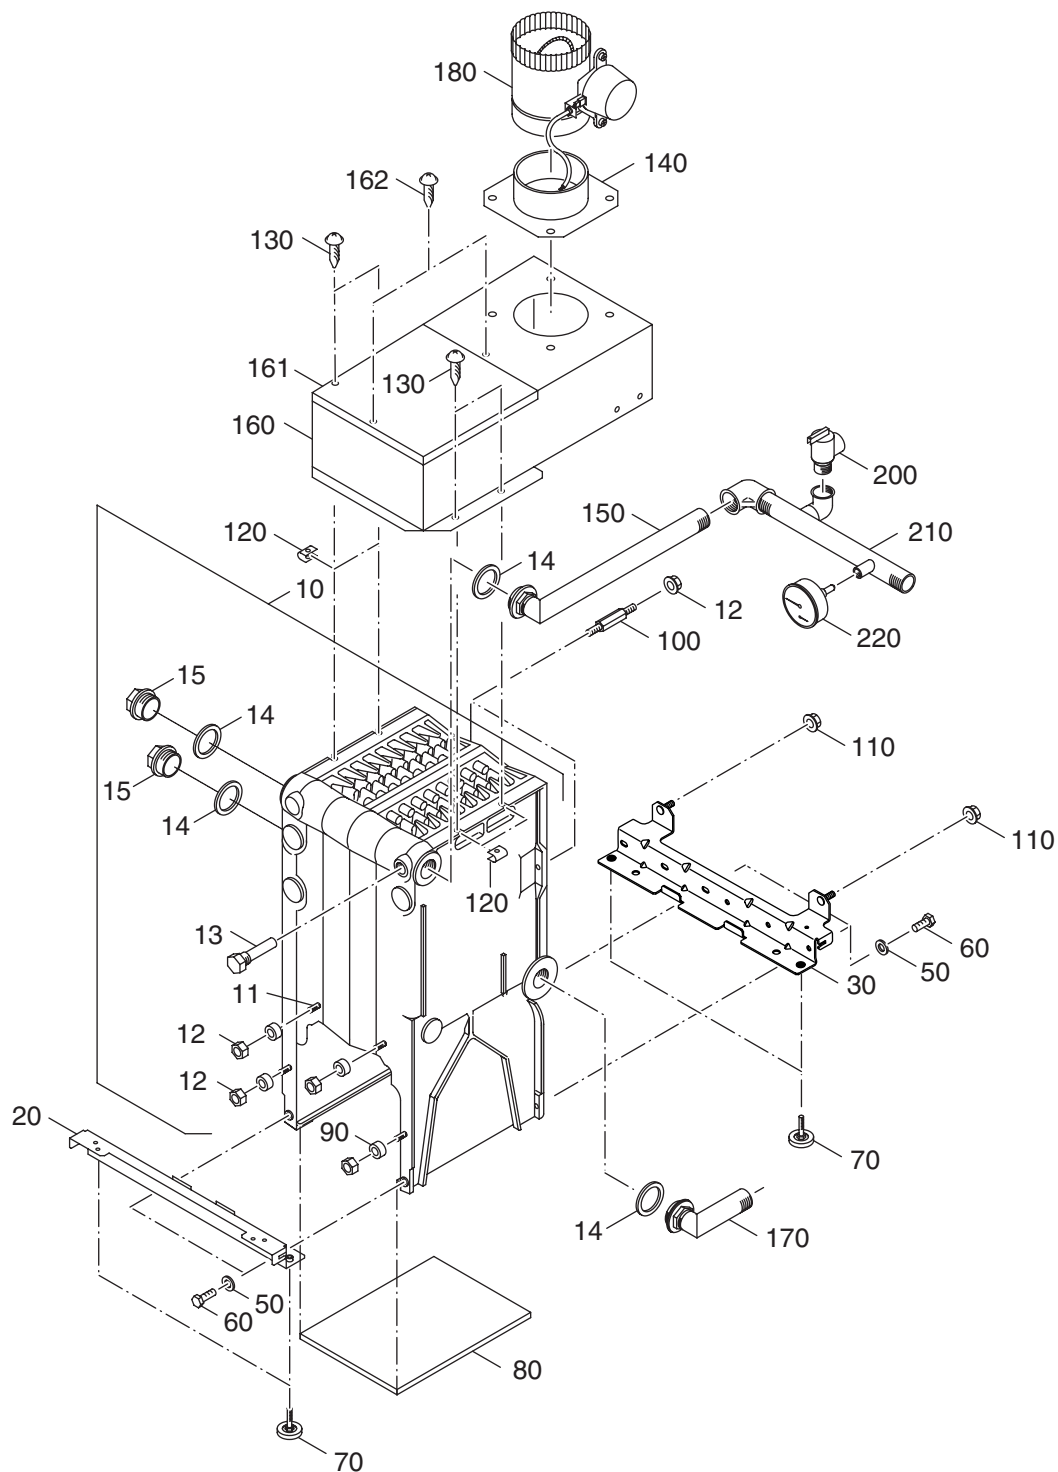

Fig. 51 Boiler block – attachment parts
**Boiler block – attachment parts (→ Fig. 51)**